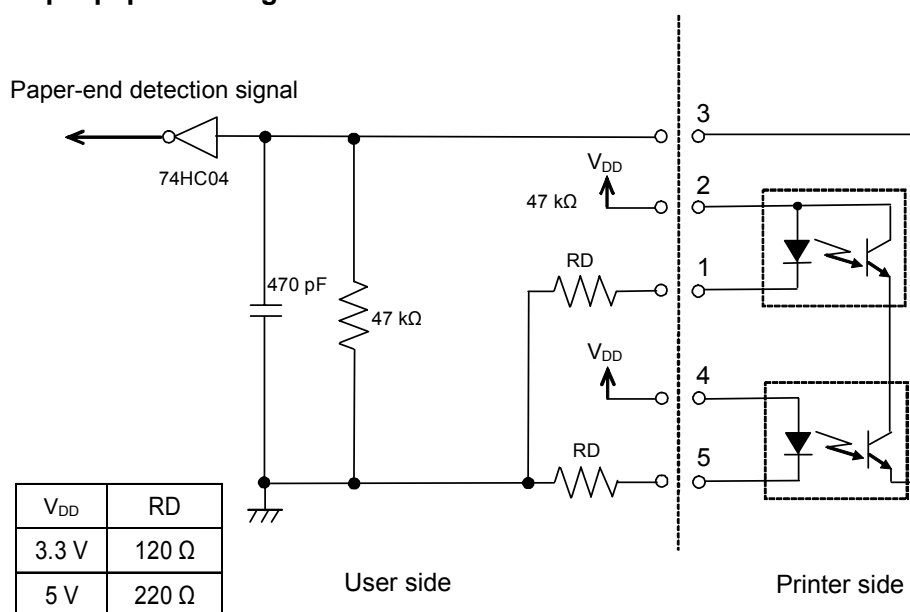

**Figure 1.3.1 Example Power Supply Connection Circuit for the Thermal Print Head**
- 1) To prevent electrolytic corrosion of the print head electrode, a device that turns the power supply for the head on/off must be installed. (See inside the dotted box line in Figure 1.3.1.) This device (such as FET) should have a low voltage loss.